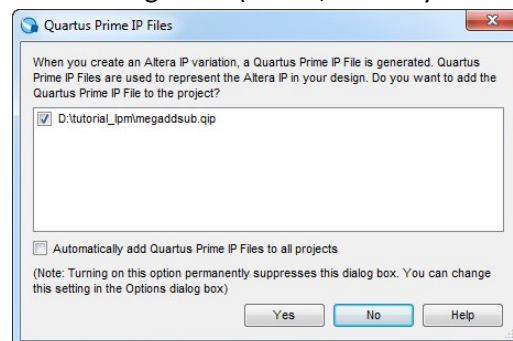

Figure 12. Do not add the new files to the project.
10. The box in Figure 12 may pop up. If it does, make sure to press No, since adding the newly generated files to the project is not needed when using VHDL (in fact, this may cause compilation errors).